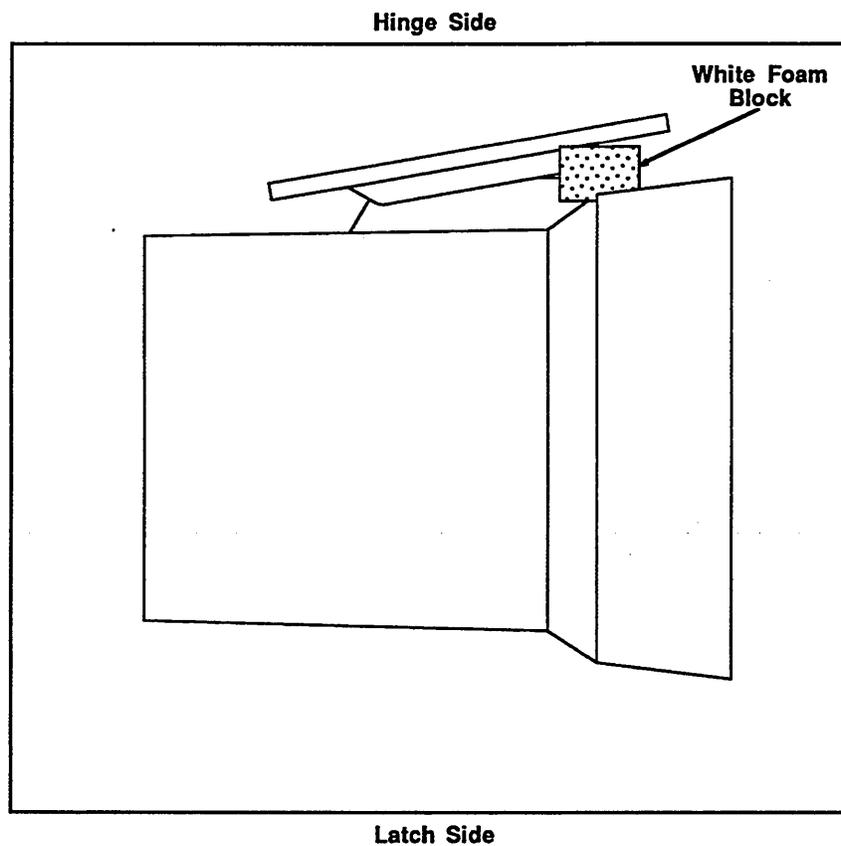

Figure 2-1. Position of Monitor in Case 3 of 3
8. Carefully position the monitor in case 3 of 3 as illustrated in figure 2-1. Position the packing material over the monitor; then close and latch the case.